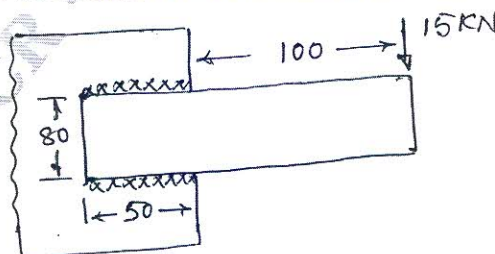

Fig.Q8(a)
- 8 a. A bracket having a load of 15 kN is to be welded as shown in Fig.Q8(a). Find the size of weld required, if allowable shear stress is not to exceed  $80 \text{ N/mm}^2$ .